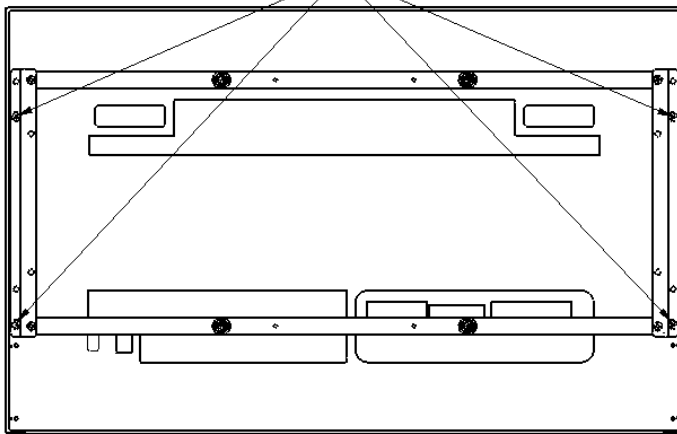
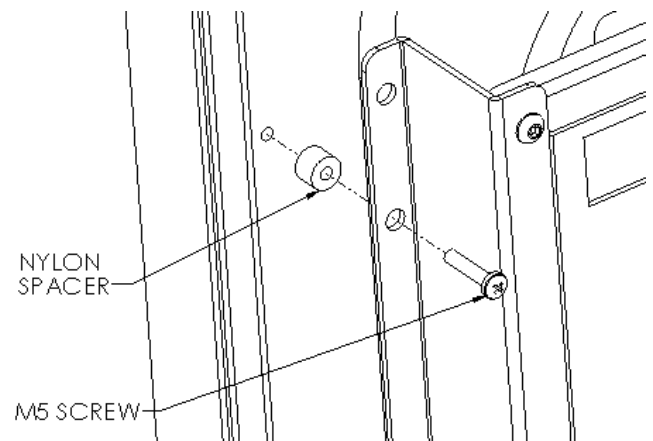

Figure 6
Figure 7
4. Using M5 screws, secure side brackets to display (see Figure 6 & Figure 7). Do not over tighten screws. The 1/4-20 button head cap screws attaching the side and center brackets may need to be loosened in order to line up holes on display. If this is done, please be sure to tighten them once again.